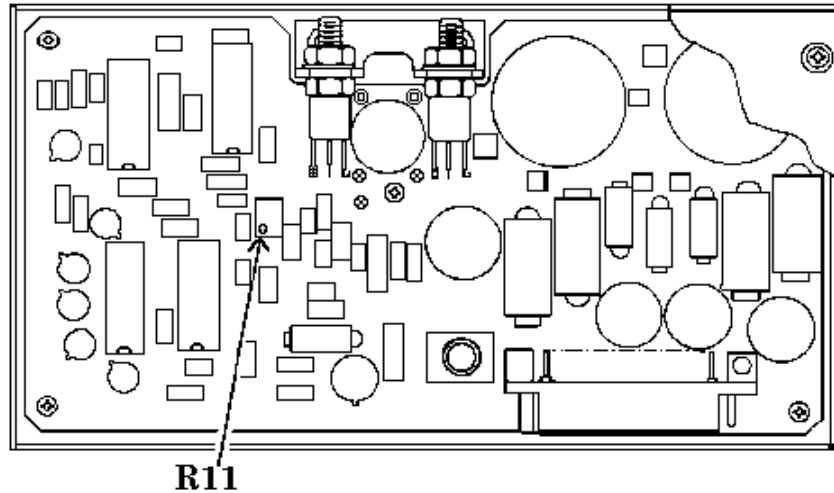

Figure 14. Power supply adjustment location.
**b. Adjustments.** Connect digital voltmeter to control box TJ 11 and adjust R11 (fig. 14) for a digital voltmeter reading between 11.99 and 12.01 V dc (R).